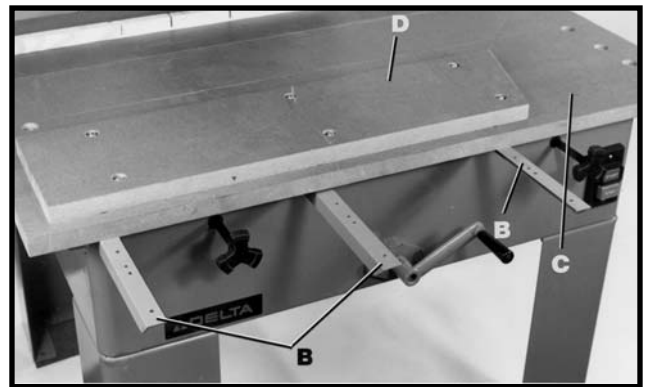
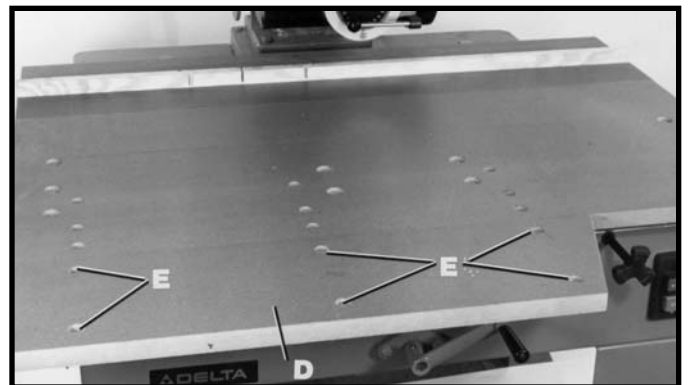

Fig. 16
Fig. 17
3. Fig. 16, illustrates three angle supports (B) assembled to the fixed table board (C).
4. Place the smaller angled table board (D) Fig. 16, on the angle supports (B) and fasten with six 1/4-20x7/8" round head screws and 9/32" flat washers shown at locations (E) Fig. 17.